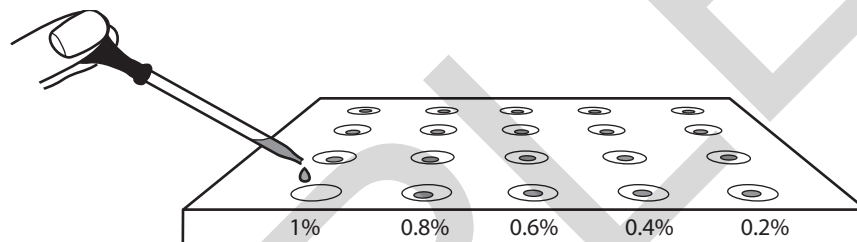

Figure 3.3
- Place spots of iodine in potassium iodide solution onto the spotting tile or tiles. Arrange them in five rows, as shown in Figure 3.3.